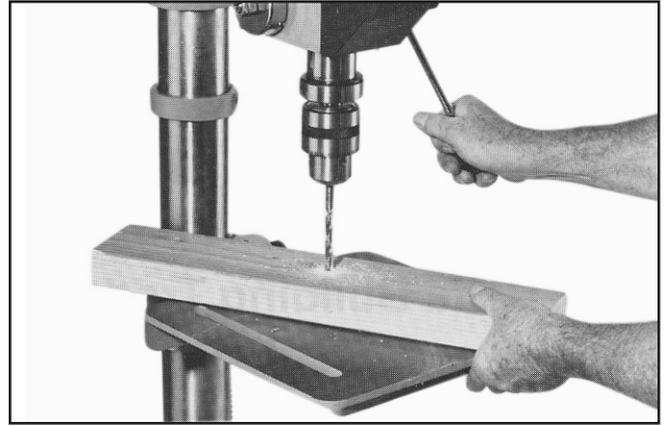

Fig. 26
**IMPORTANT:** When the workpiece is long enough it should always be positioned on the table with one end against the column, as shown in Fig. 26. This prevents the workpiece from rotating with the drill bit or cutting tool, causing damage to the workpiece or personal injury to the operator. If it is not possible to support the workpiece against the column, the workpiece should always be fastened to the table using clamps or a vise.